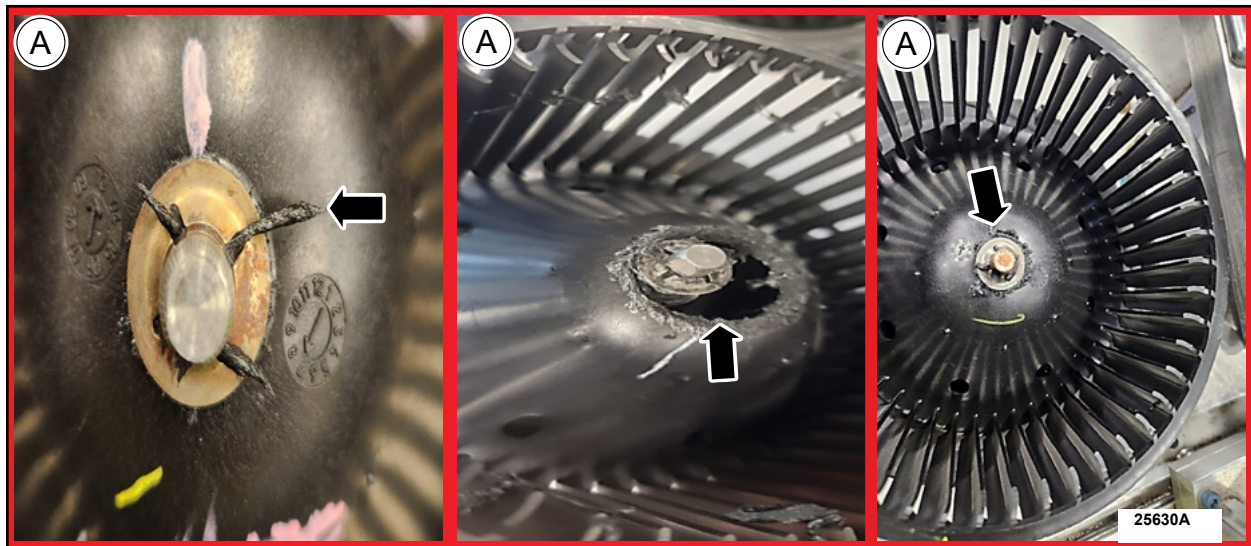

FIGURE 1
2. Inspect the blower motor wheel around the shaft for damage. Damage can include signs of melted plastic, plastic burrs, and the wheel hogged out. See Figure 1.
NOTE: Photos of the damaged blower motor assembly should clearly depict the damage. Similar to the images provided in Figures 1 or 3. Instructions can be found on pages 5 and 6.